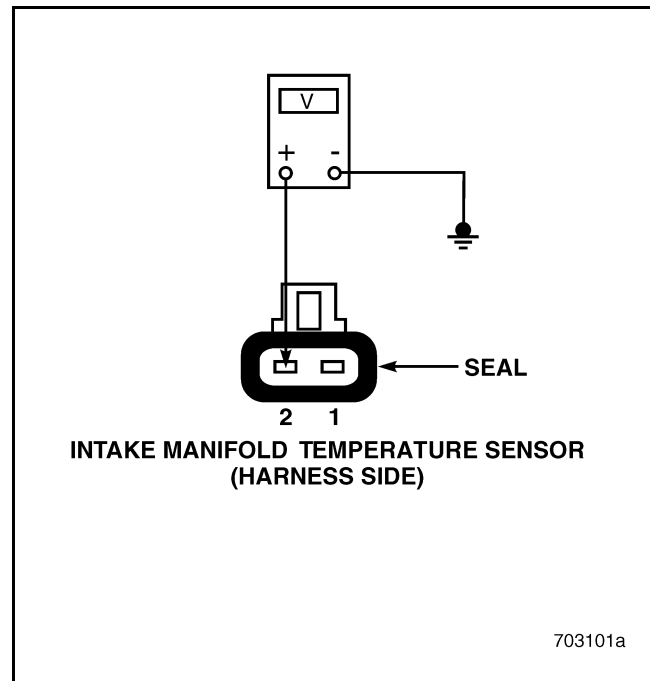

Figure 220
5. Measure the voltage between pin 2 of the IMT Sensor harness connector and a good ground (see Figure 220).